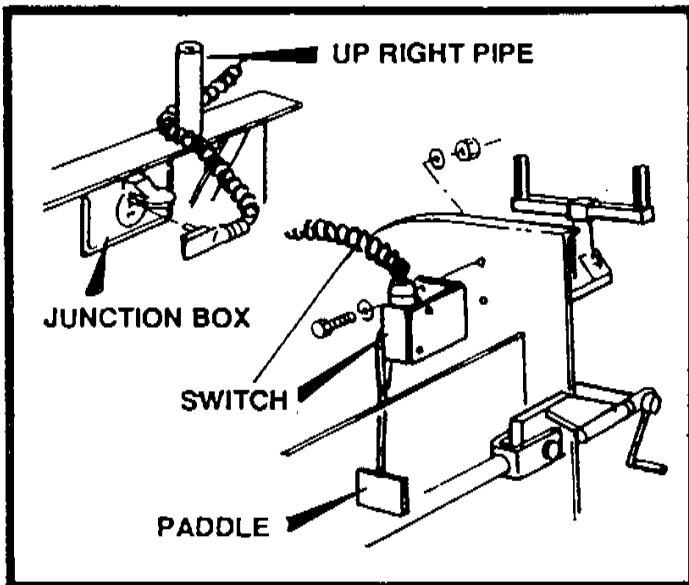

FIGURE 14A
1. To install the paddle on the screed extension, extend the screed 6 inches and mount paddle on endgate as shown. Install the same way on left endgate. See figure 14A.